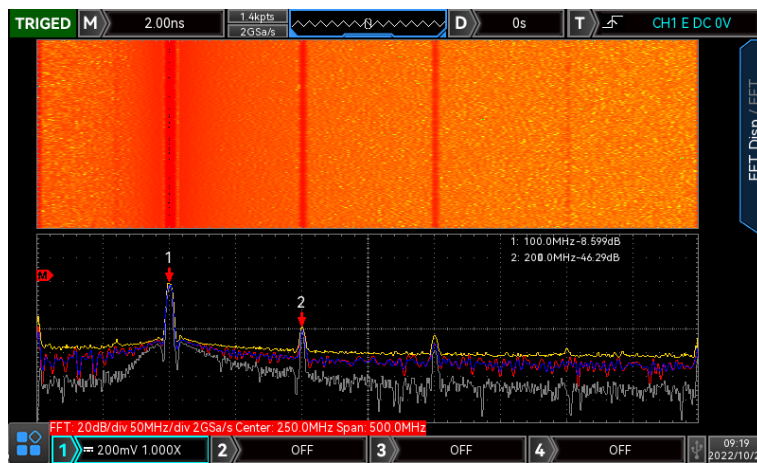

Figure 15-2
- d. Waterfall curve 2: Spectrum and waterfall curve split to two window to display. Waterfall curve shows the time changing of dB value in spectrum. It has "record" function. Waterfall curve can only select when enhance FFT is opened. The maximum record 200 spectrum which corresponds to waterfall curve. As shown in Figure 15-2.